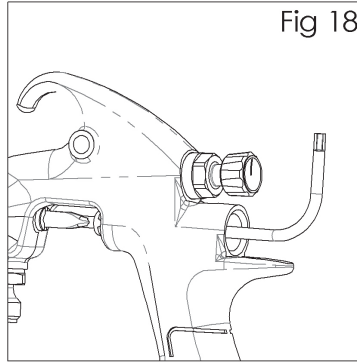

Fig 18
2. Loosen and remove packing nut using a straight blade screwdriver. (See figs 18 & 19)